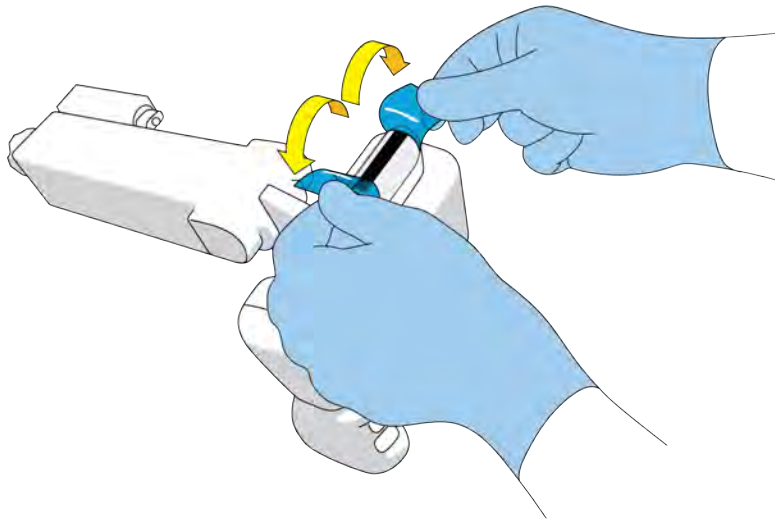

Figure 11. Remove adhesive-backed plastic film from Gel Pad.
4. Using both hands, remove adhesive-backed plastic film from Gel Pad exposing adhesive surface (Figure 11).